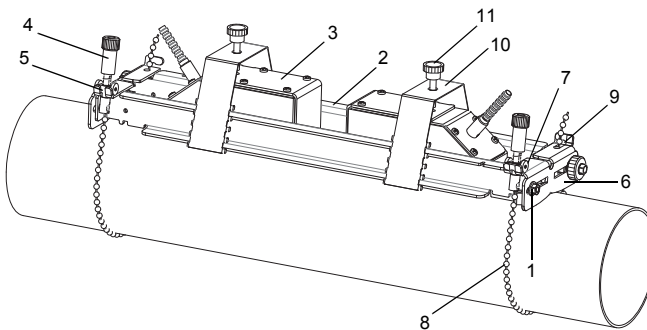

Fig. 8.4: Variofix rail with chains
- Loosen the 4 screws (1) for the adjustment of the rails (2) with a M8 wrench (see Fig. 8.4).
- Place one transducer (3) in the center between the rails.
- Press the two rails (2) together and tighten the 4 screws (1). The transducer can be shifted and removed.
- Loosen the chain tensioners (4), but do not unscrew them completely.
- If the chain has not yet been mounted to the rail support (6):
- Force apart the legs of the spring clip (10) and clamp it over the outer side of the rails (2). The height where the spring clip will snap in depends on the height of the transducer.
- Place the transducer between the rails (2). Observe the mounting direction (see Fig. 8.4).
- Push the spring clip (10) over the transducer until the knurled screw (11) is positioned over the blind hole of the transducer.
- Fix the transducer by tightening the knurled screw by hand (11).
- Adjust the transducer distance by loosening the knurled screw (11) of a spring clip (10) and shifting the transducer.